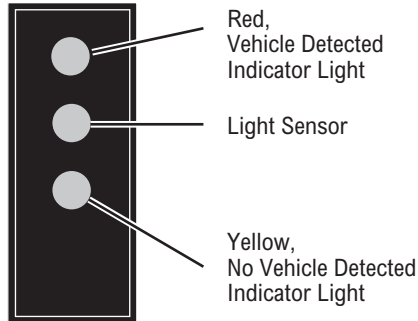

Figure 9
Red/Triple Tone	Indicator light illuminates after objects have been detected by the Side Sensor(s), and remain in proximity for more than one (1) second. When the right turn signal is activated and the Side Sensor detects an object, the red indicator light illuminates, and the Driver Display Unit speaker sounds a triple tone. The Tone is sounded only once per activation of the turn signal. (See Figure 9)
Light Sensor	The photo sensor senses ambient light and increases the brightness of the indicator lights during the daytime hours and decreases the brightness at night. Takes ten seconds to activate. (See Figure 9)
Yellow	Indicator light stays on when no objects are detected by the Side Sensor(s). (See Figure 9)
Red and Yellow	Indicates the Side Sensor is performing a start-up self-test or there is a failure. (See Figure 9)